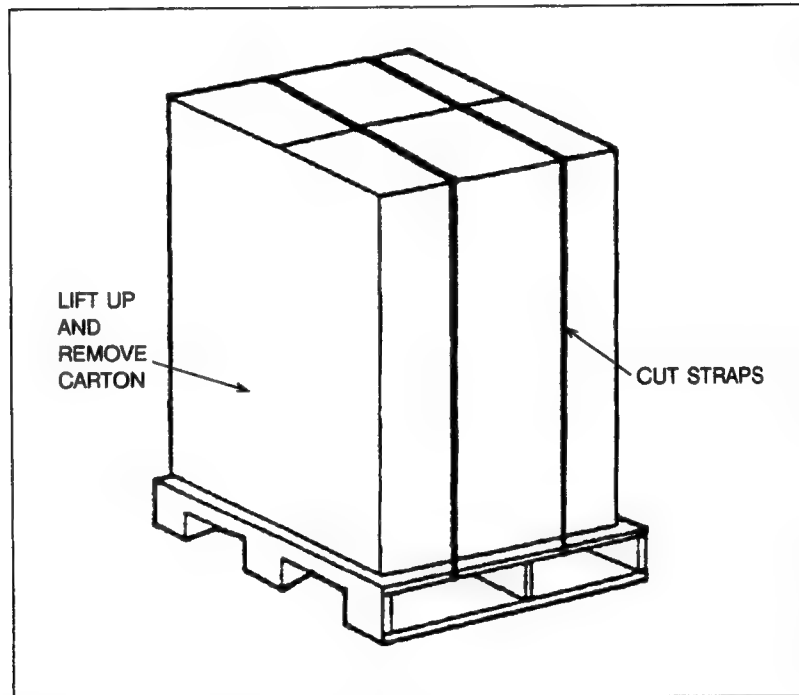

Figure 2-1. Removing the Banding Straps and Outer Carton
- a. Wearing protective glasses, stand to one side and cut the banding straps around the outer cardboard carton (see Figure 2-1). Remove the outer carton.